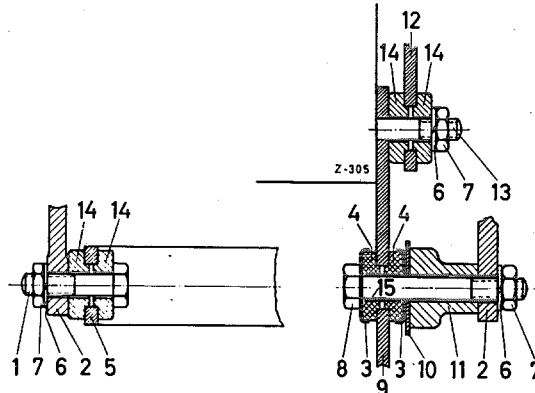

Fig. 15 — 11/3
With the introduction of the second version of the generator mounting, the ground cable (24) was no longer fitted (Fig. 15 — 11/2). As of Engine No. 65 02 360, however, it was installed again, and was later fitted to the front of the generator and lengthened. The ground lead on the front of the generator is now located between the washer (14), or alternatively the front generator lug (2) and the lock washer (6) (Fig. 15 — 11/3, 2nd version).
4. Check the alignment of the pulleys. Then put on the Vee-belt and tighten by turning the clamp nut (4) to the left. The distance which the Vee-belt can be pressed out of the straight when moderate thumb pressure is applied from the generator side must measure at least 5 mm and not more than
10 mm. When this operation is completed, tighten the lock nut (5) and the front and rear mounting nuts (1) (see Fig. 15 — 11/1).